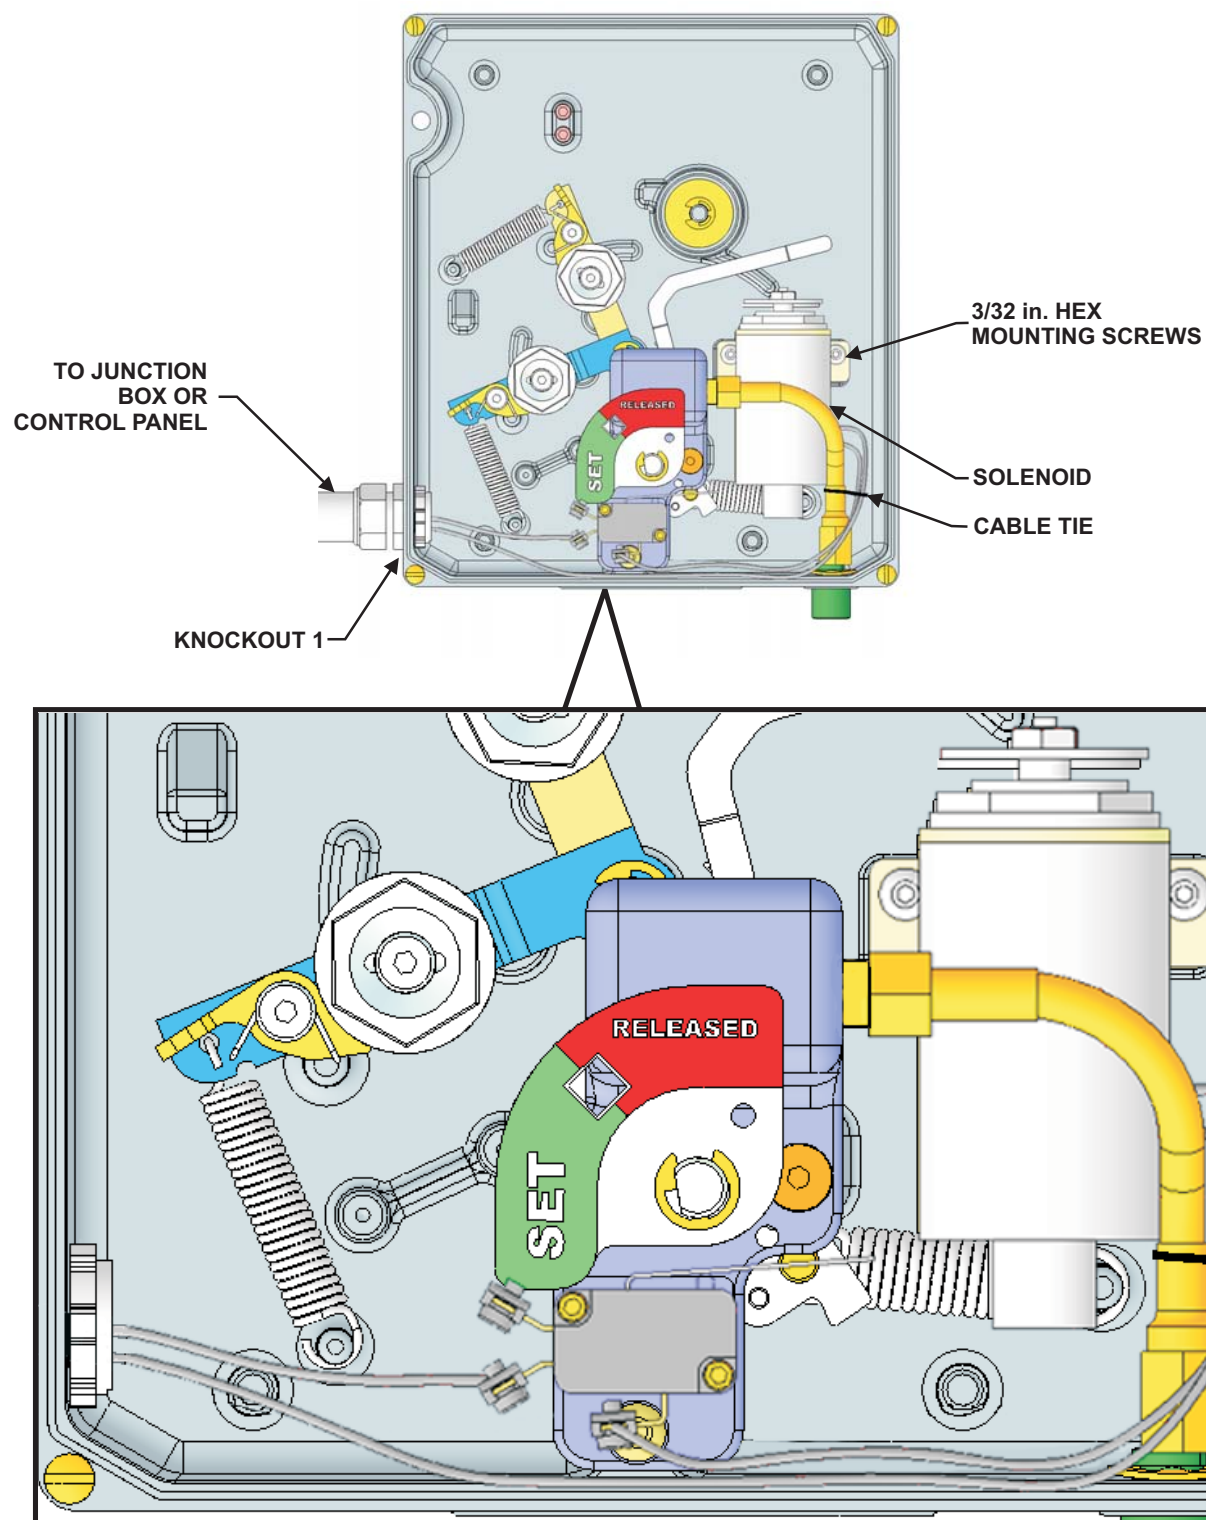

Figure 4-30. Solenoid Mounted and Wired in the XV Control System
1. Using a 3/32-inch Allen key, position the Solenoid behind the High-Pressure Nitrogen Tubing, aligning the mounting bracket with the mounting screw holes on the actuator mounting pad (see Figure 4-30).
- Finish the releasing loop by attaching a wire to T4 of the microswitch, through the conduit and into an approved control panel. See Figure 4-30.